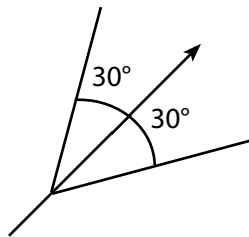
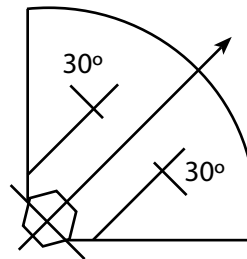

Figure 1. Small burn
Figure 2. Large burn
5. To allow for horizontal dispersion of the smoke, as well as shifts in wind direction, draw two other lines from the burn at an angle of 30 degrees from the centerline(s). For a small burn, draw as in Figure 1. For a large burn, draw as in Figure 2.
Figures 1 and 2. Examples of how to estimate smoke plume dispersion for prescribed fire planning.